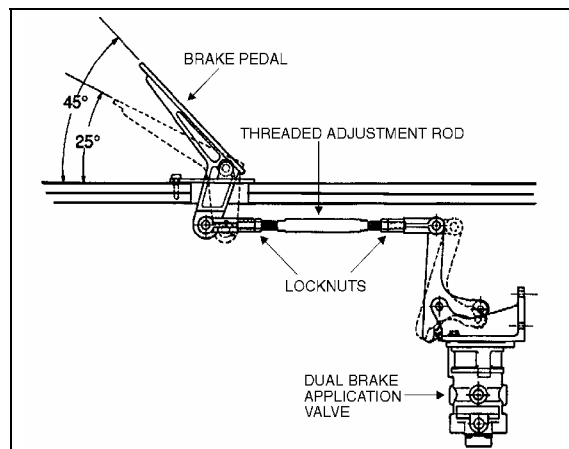

FIGURE 14: BRAKE PEDAL ADJUSTMENT 12040
The E-10P dual brake valve is a floor mounted, foot-operated type brake valve with two separate supply and delivery circuits. This valve is located in the front service compartment (Fig. 14).
1. Replace the linkage, loosen threaded rod lock nuts and screw or unscrew the threaded adjustment rod in order to obtain a 45° brake pedal inclination (Fig. 14).